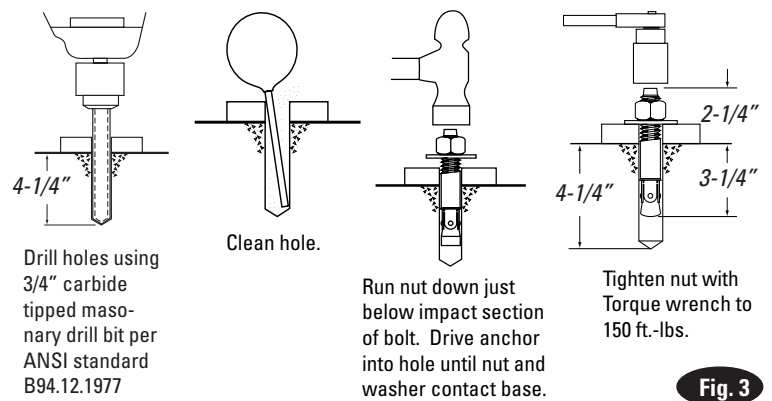

Fig. 3
Drill (10) 3/4" dia. holes in concrete floor using holes in column base plate as a guide. See Fig. 3 for hole depth, hole spacing, and edge distance requirements.